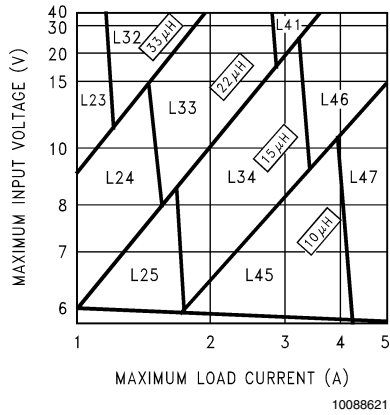
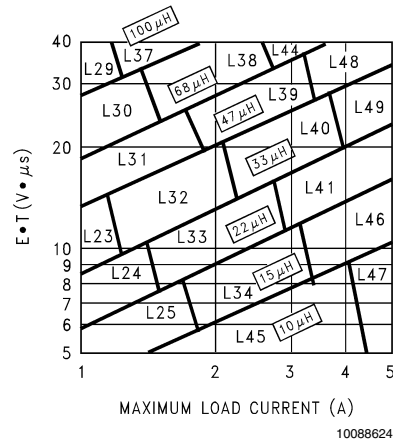

FIGURE 3. LM2678-3.3
FIGURE 6. LM2678-ADJ
**Step 3:** Determine the inductor required by using one of the four nomographs, *Figure 3* through *Figure 6*. Table 1 provides a specific manufacturer and part number for the inductor.
**Step 5:** Determine an input capacitor from Table 4 for fixed output voltage applications. Use Table 2 to find the specific capacitor type. For adjustable output circuits select a capacitor from Table 2 with a sufficient working voltage (WV) rating greater than  $V_{in\ max}$ , and an rms current rating greater than one-half the maximum load current (2 or more capacitors in parallel may be required).
**Step 3:** Use the nomograph for the 3.3V device, *Figure 3*. The intersection of the 16V horizontal line ( $V_{in\ max}$ ) and the 4A vertical line ( $I_{load\ max}$ ) indicates that L46, a 15μH inductor, is required.
**Step 3:** To use the nomograph for the adjustable device, *Figure 6*, requires a calculation of the inductor Volt•microsecond constant ( $E \cdot T$  expressed in  $V \cdot \mu s$ ) from the following formula:
Using *Figure 6*, the intersection of 27V•μs horizontally and the 3.5A vertical line ( $I_{load\ max}$ ) indicates that L48, a 47μH inductor, or L49, a 33μH inductor could be used. Either inductor will be suitable, but for this example selecting the larger inductance will result in lower ripple current.
**Important Note:** When using the adjustable device in low voltage applications (less than 3V output), if the nomograph, *Figure 6*, selects an inductance of 22μH or less, Table 6 does not provide an output capacitor solution. With these conditions the number of output capacitors required for stable operation becomes impractical. It is recommended to use either a 33μH or 47μH inductor and the output capacitors from Table 6.